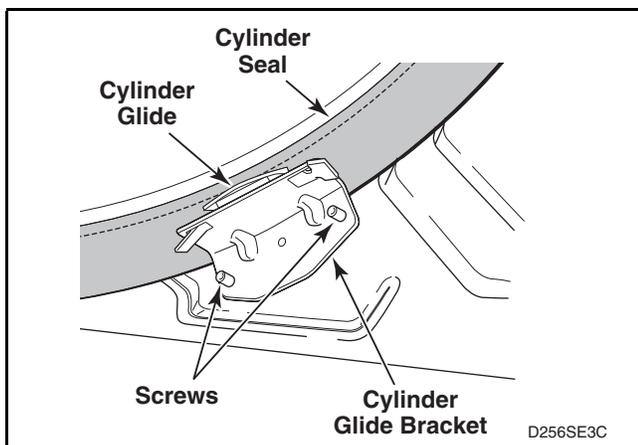

Figure 31
j. **Cylinder Glides and Glide Bracket.** Refer to *Figure 31*.
- (1) Unsnap glide from each glide bracket.
- (2) Remove screws holding glide bracket to front bulkhead.